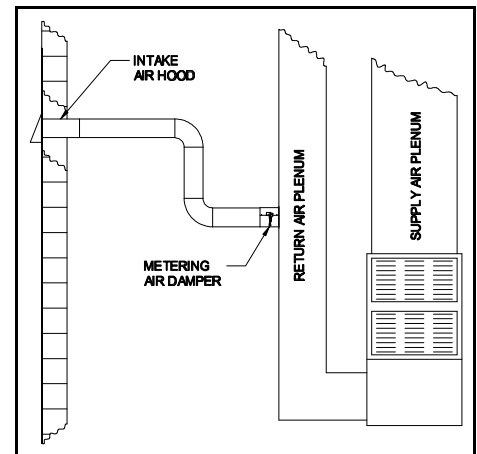

Figure 3
4. Connect 6" flex duct or standard 6" duct piping from the intake hood to the metering air damper. Fasten and support piping, so no straining of the metering air damper exist. (See Figure 3)